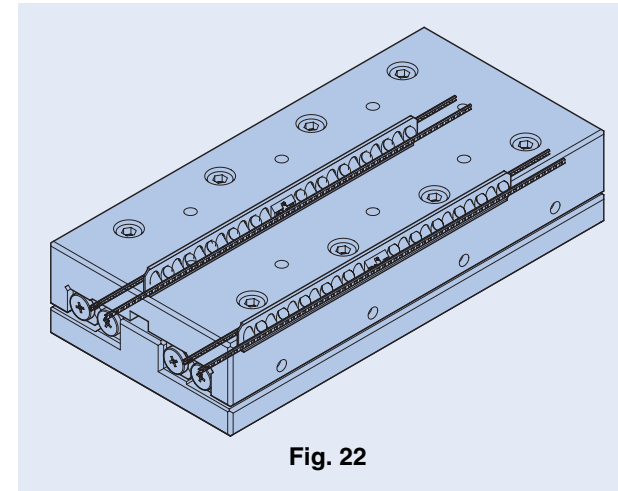

Fig. 22
- Gently move the table at a full stroke and make sure that the cylindrical roller at each end of the retainer does not hit the end screw of the track base within the stroke. If the roller hits the retainer end, repeat the above steps from the first. (See Fig. 22)